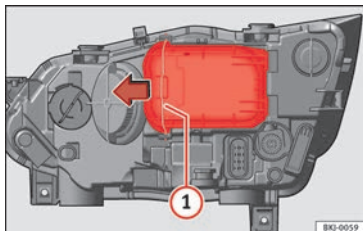

Fig. 114 In the engine compartment: remove the lid.
- Move the loop » **Fig. 114** ① in the direction of the arrow and remove the cover.